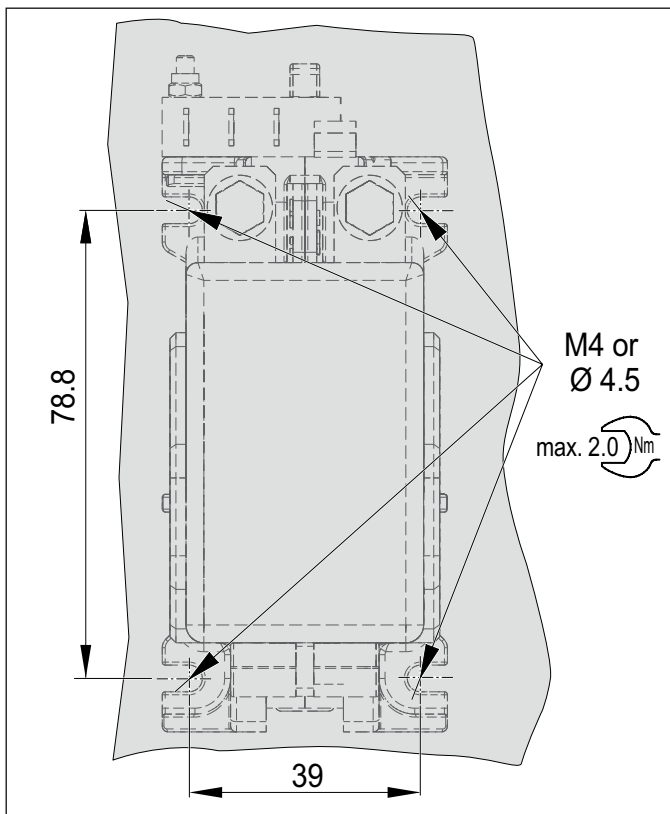
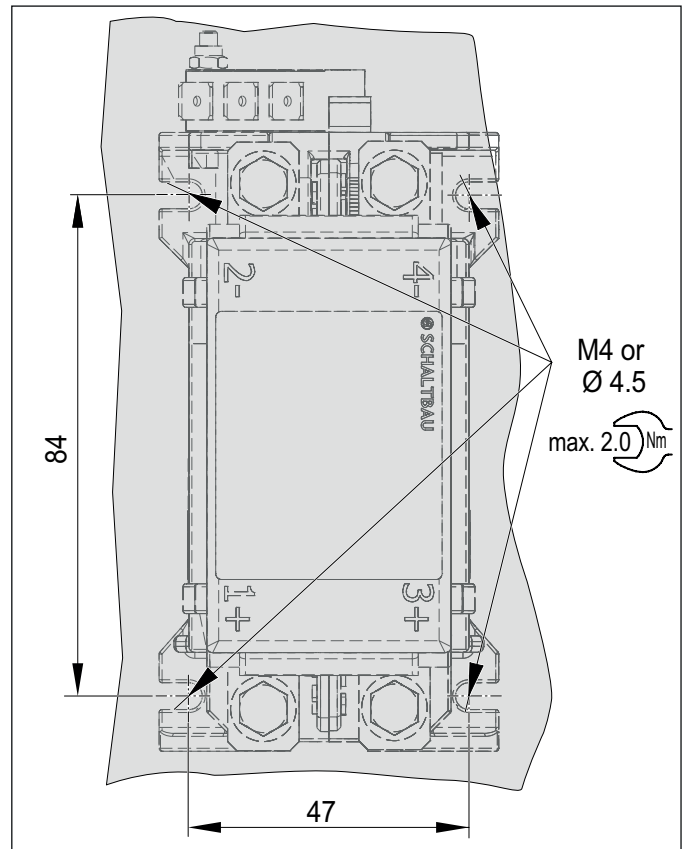

Fig. 3: C193 series: Dimensions (in mm) and arrangement of the mounting holes
Fig. 4: C294 series: Dimensions (in mm) and arrangement of the mounting holes
- ▶ For the fastening of the contactors an appropriate mounting plate with 4 mounting holes according to *Fig. 3* or *Fig. 4* has to be provided.